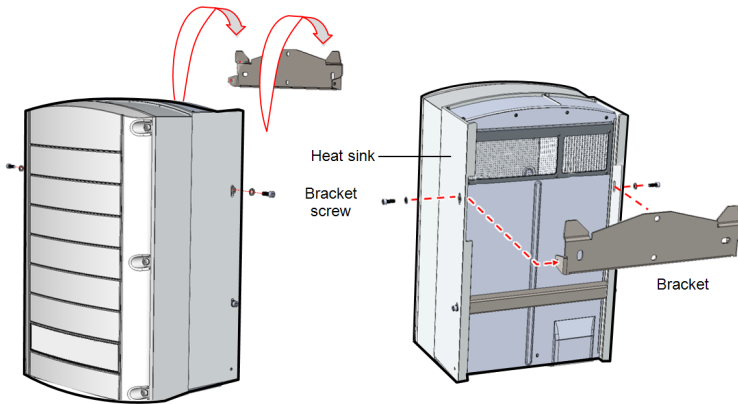

Figure 16: Hanging the Synergy Unit
- For the right or left Synergy Units, insert only one screw through the outer (exposed) side of the unit and into the bracket. Tighten the screws with a torque of 2.9 lb.*ft (see *Figure 16*).